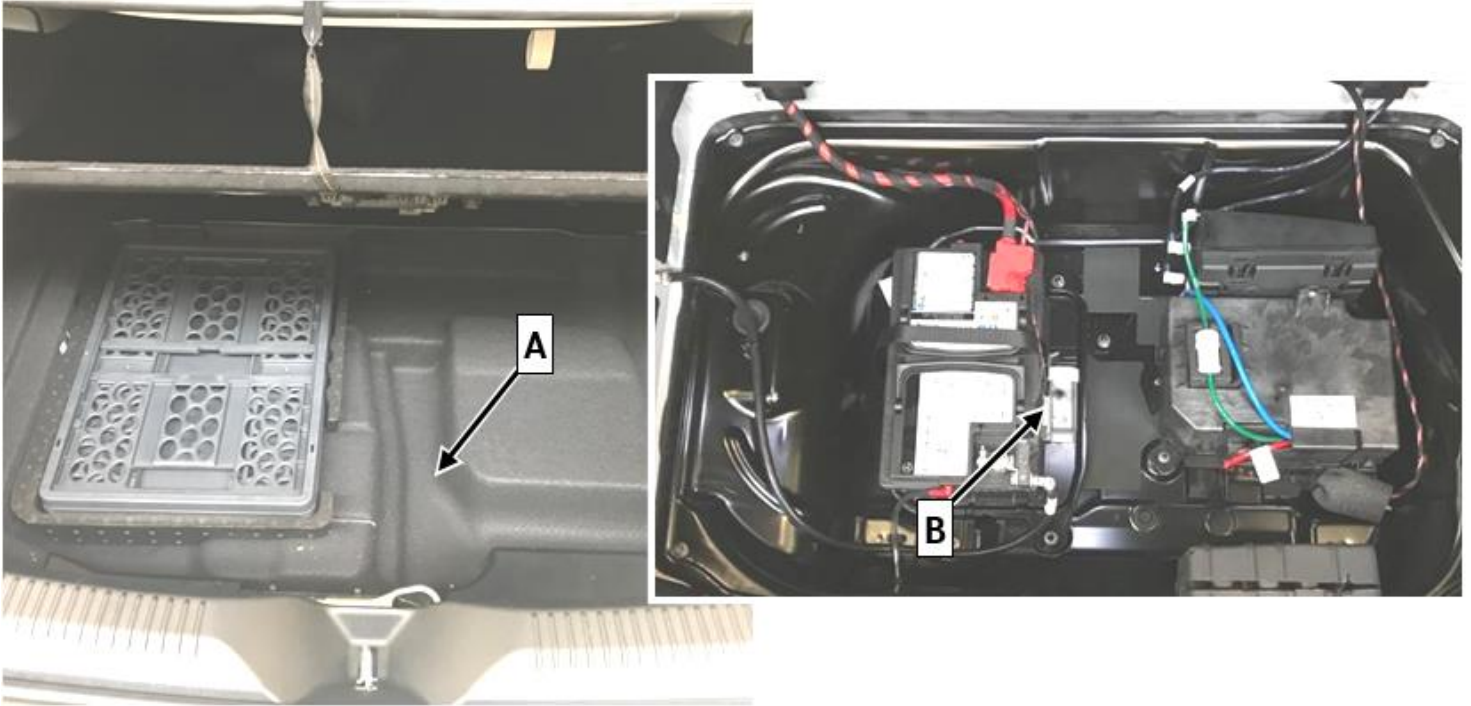

Figure 1
2. Fold felt trim (A, Figure 1) above battery upward.
3. Unscrew screw of Battery attachment (B, Figure 1).